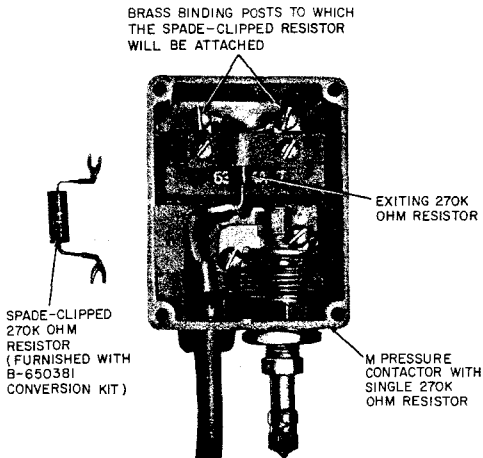

Fig. 5—Converting L or M Pressure Contactor to Dual Resistor Arrangement
- (b) Remove the contactor housing cover and loosen the two brass binding post screws. (Do not remove screws from mounting.) See Fig. 5.